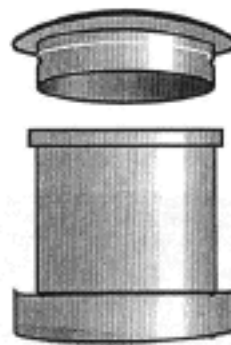

Fig. 3.09 Fasten the cap on the cup.
6. Fasten the cap on the cup (**Figure 3.09**). Using an indelible pen, write an identifying number on the cup. Keep a record of the sample number, the site and location, the date of the sample, and any other relevant comments.